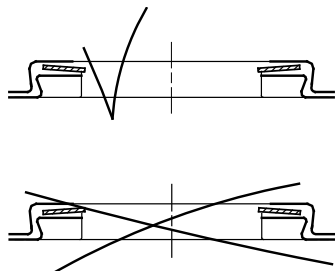

Fig. 31 Correct fitting of wear ring
Check whether it is necessary to replace the impeller due to friction between wear ring and impeller skirt. If wear has caused a noticeable (use a finger nail) groove in the impeller skirt, the impeller should be replaced. It is advisable always to replace wear rings (pos. 45) and wear ring retainers (pos. 65) when the chamber stack is dismantled.	- Prise the wear ring retainer (pos. 65) up and free of the chamber using a screwdriver. - Remove wear ring (pos. 45). - Fit a new wear ring in the chamber. See fig. 31. - Press a new wear ring retainer on the wear ring and into the chamber. It must be possible to move the wear ring freely (sideways) between the retainer and the chamber.